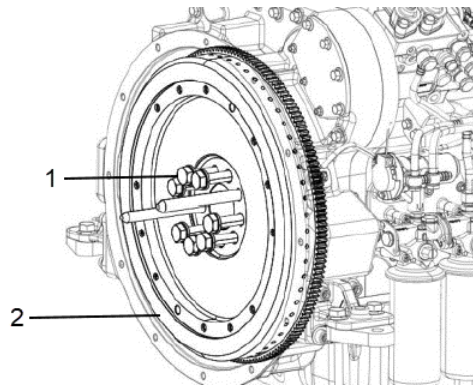

Figure 118.
11. Apply a film of oil to the threads and under the head of the flywheel fixing bolts (Figure 118, Item 1).
12. Using suitable handling, install the flywheel (Figure 118, Item 2) on the crankshaft.